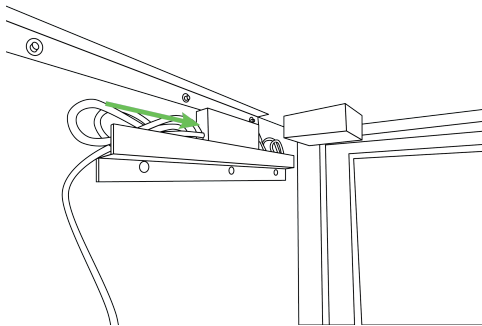

Figure 6-55. Power brick secured inside the box
2. Slide the Elo Touchscreen power brick into the cord management shelf on top of the left wall of the compartment (Figure 6-55).